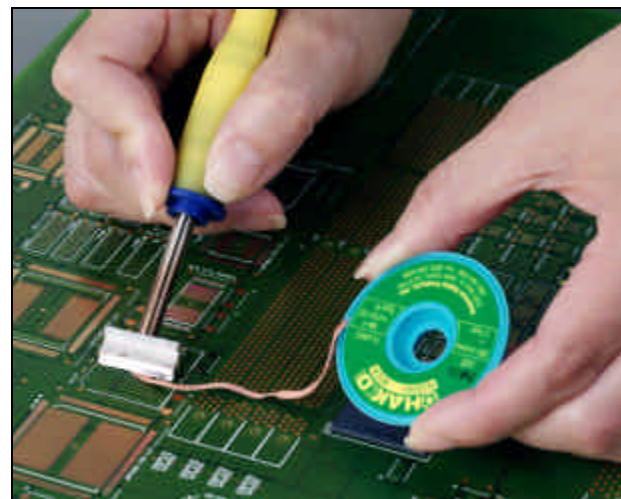

Figure 25: Leveling Pads using Solder Wick & Flux
2. Level the pads with solder wicking braid (Fig. 25)